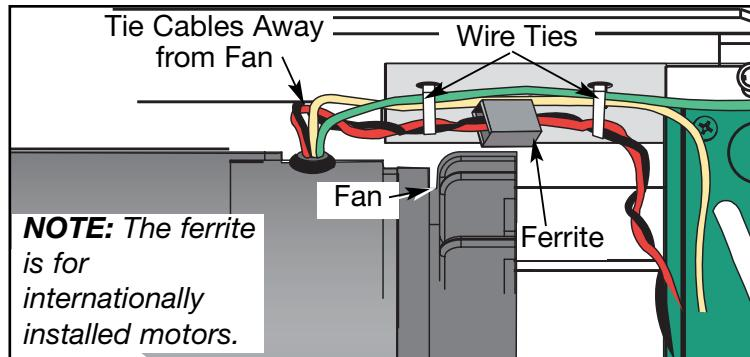

Figure 18
D. Using wire ties, tie the motor cable to the base so that no wires get pinched. See Figure 18. **NOTE:** Be sure that the wires are tied away from the fan and running belt. For internationally installed treadmills only, place the ferrite (shown in Figure 18) removed in between the wire ties.